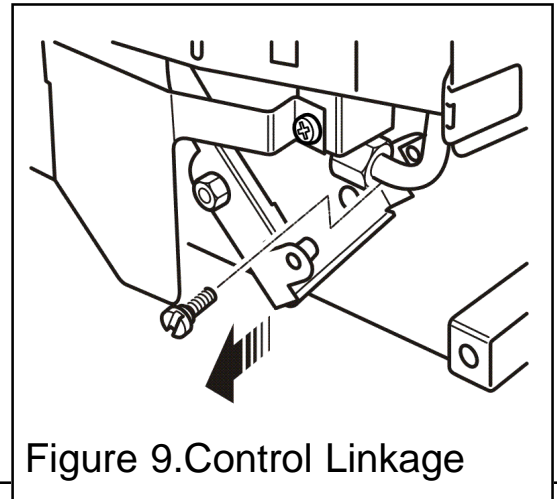

Figure 9. Control Linkage
2. Disconnect the control linkage from the burner unit by removing the shouldered screw which joins the control linking bar to the control pivot unit. See figure 9.